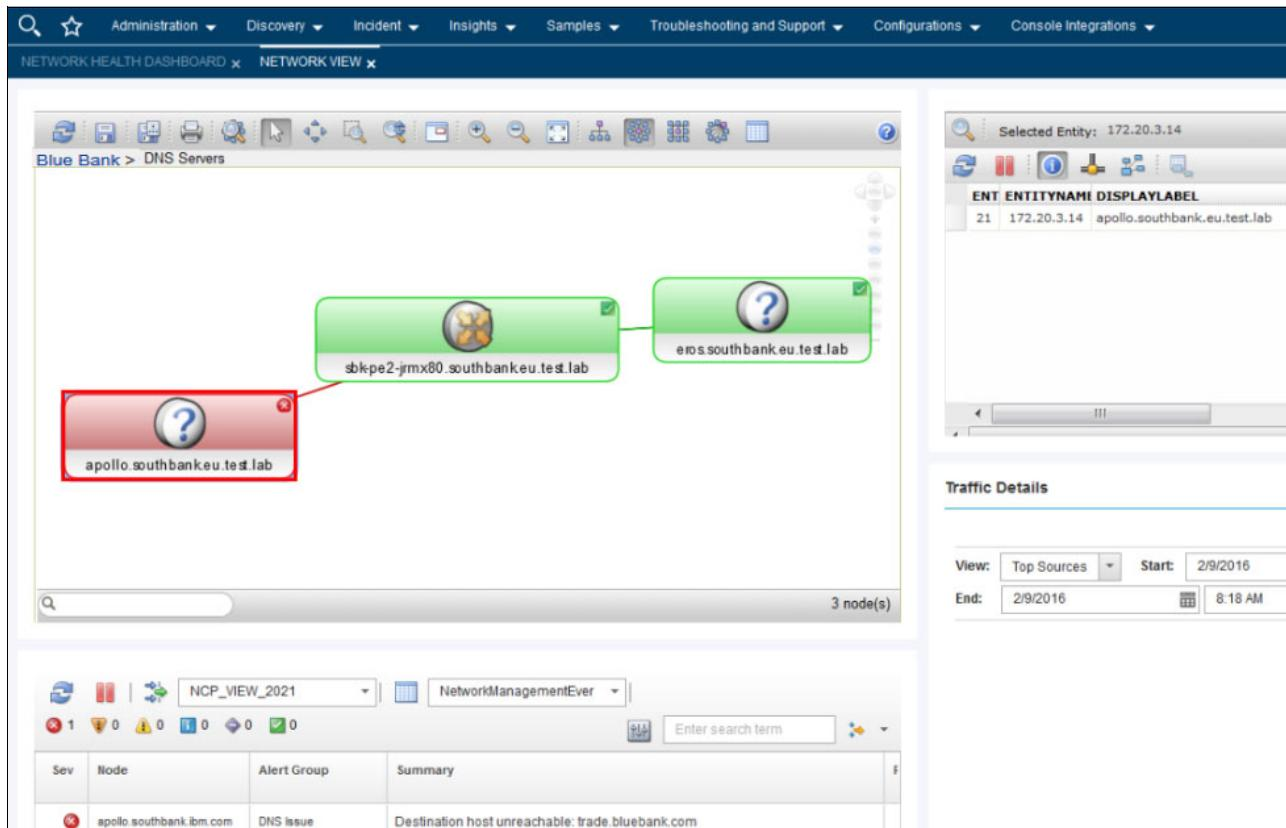

Figure 2-28 Network view of the Primary and Secondary DNS servers
- Brock clicks the Network View tab for the DNS network topology, as seen in Figure 2-28.